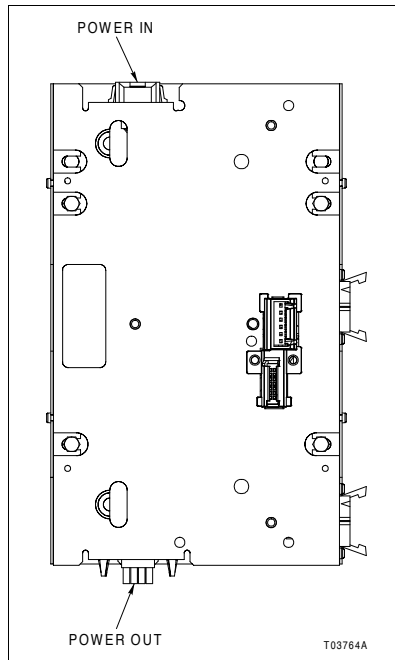

Figure PR6-1. 24 VDC Power Connectors
Redundant 24 VDC power (BLP) is cabled to the power input connector of the MCL-111 block mounting column (Fig. PR6-1). It is then internally routed to the block connector for SIM-100 block use and to the power output connector for stacking columns.
1. Attach the appropriate end of the HRM-PWR6 power cable to the power input connector of the MCL-111 block mounting column (Fig. PR6-1).